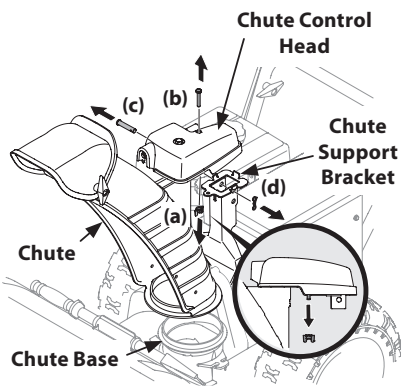

Figure 2-21
1. Remove wing nut (a) and hex screw (b) from chute control head and clevis pin (c) and cotter pin (d) from chute support bracket. Position chute assembly (forward-facing) over chute base. See Figure 2-21.